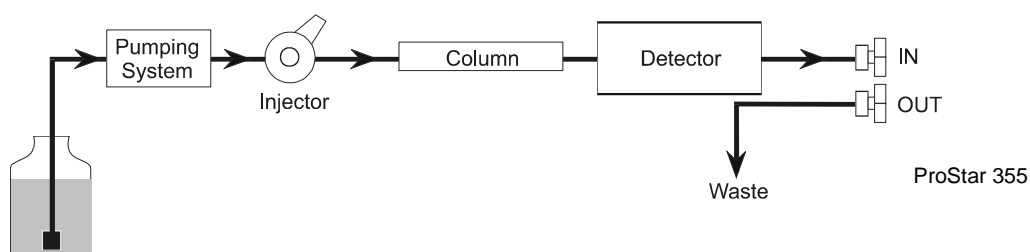

Figure 4 ProStar 355 connected to the HPLC System
NOTE: The ProStar 355 must be the last component in any LC system. No detector or backpressure regulator can follow it. Do not use narrow-bore tubing after the ProStar 355. Refer to Figure 4.
2. Connect the opposite end of the tubing in the same manner to the column exit end. See Figure 4.